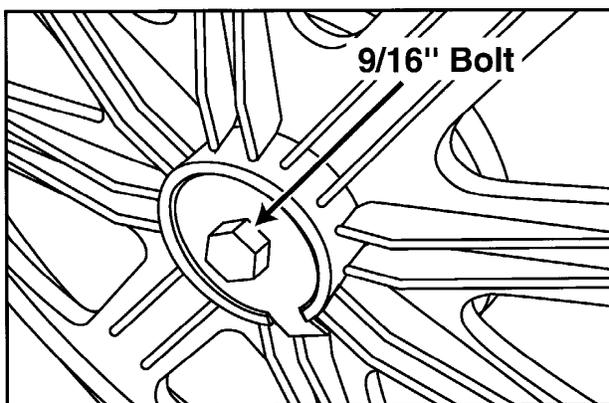

Figure 7-6
3. Remove the bolt and the spider shaft will be exposed. Carefully slide the pulley off the spider shaft, using a "rocking/side-to-side" motion. If the pulley has a snug fit, use your Spanner Wrench to apply enough leverage to pry the pulley off the shaft (*Figure 7-6*).